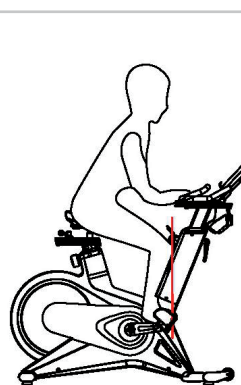

FIGURE 6
3. Adjust the front and rear position of the seat cushion. When the foot is at the forefront, your knee just exceeds your foot, as shown in Figure 6.